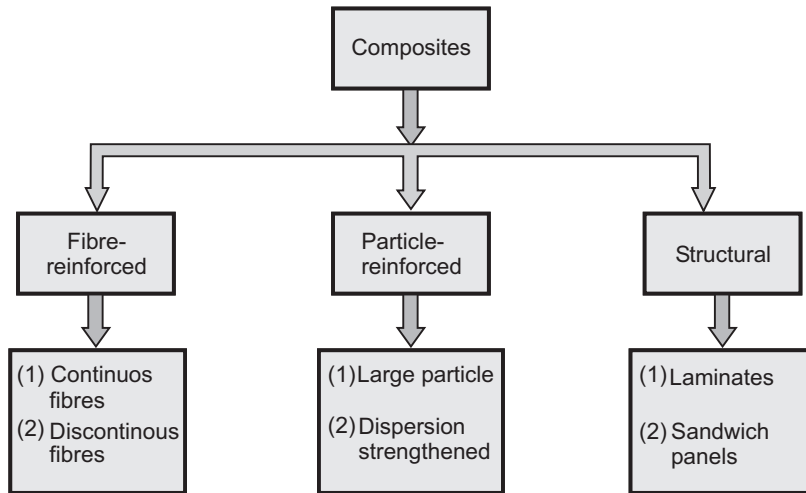

Fig. 7.2 : Classification of composites
- The classification of composite materials is summarized in Fig. 7.2.